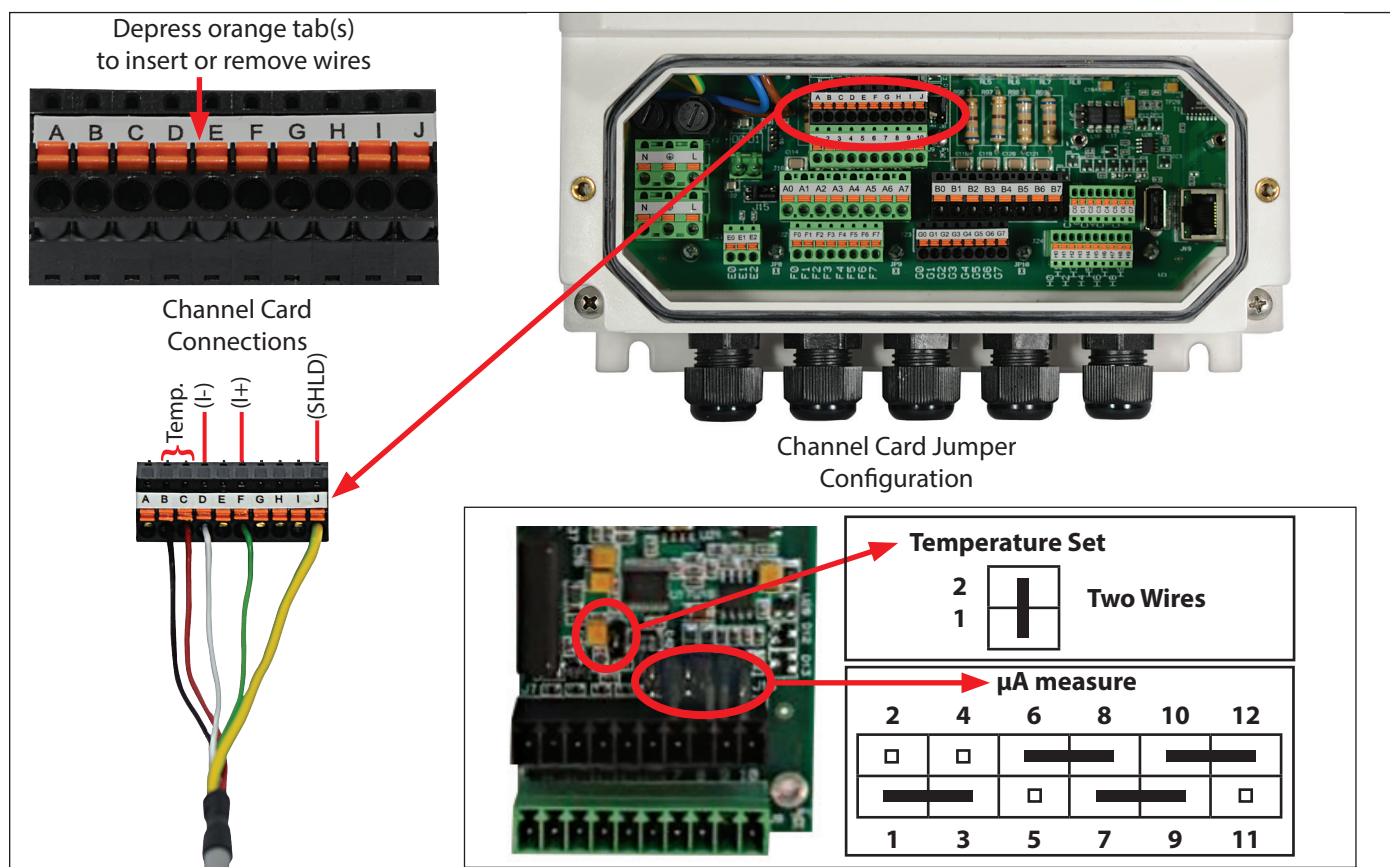

Figure 6 – Measure Cell Connections & Channel Card Configuration
2.5 Measure Cell Electrical Connections (See Figure 6)
The measure cell is connected to the MicroChem®3 with the cable(s) that are attached to the cell. Route the wire up through the gland in the bottom of the MicroChem®3. The wires are labeled with the applicable terminal designation, the same as the respective terminal on the channel card terminal strip. Terminals D and F are the raw current signals from the electrodes. Terminals B and C are the temperature probe connections and the J terminal is the wire shield connection. Push the wires into the corresponding terminal on the channel card. If it becomes necessary to remove a wire from the terminal strip use a small straight blade screwdriver and depress the orange tab above the wire and pull back on the wire to release. When finished tighten the gland connector to ensure a watertight connection between the cable and instrument. Configure the jumpers above the terminal strip for the MC4000 measure cell. The MC4000 uses the μA measure configuration as shown in Figure 6. The temperature probe is configured for 2 wires. So the jumper is connected between terminals 1 & 2. See Figure 6 for electrical connection details. Set the channel definition in the MicroChem®3 instrument to MC4000. Reference Instruction Manual #210.6500 for more details.
6. Apply power to the MicroChem®3 instrument. Confirm the channel card jumpers are set for MC4000. Confirm the channel card jumpers are set for μA and the temperature selection jumper is set to 3 wires. Refer to Figure 6 for more information.